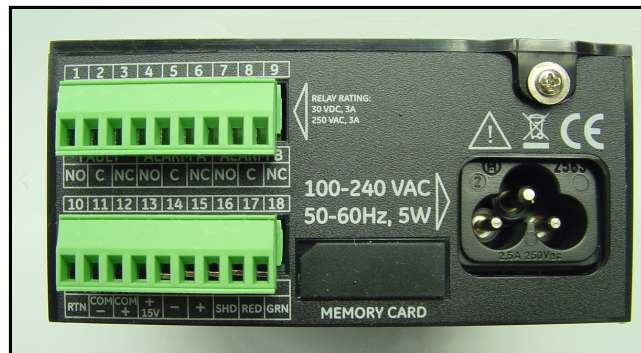

Figure 4: Back Panel
2. Remove the screw at the top of the back panel (see Figure 4).